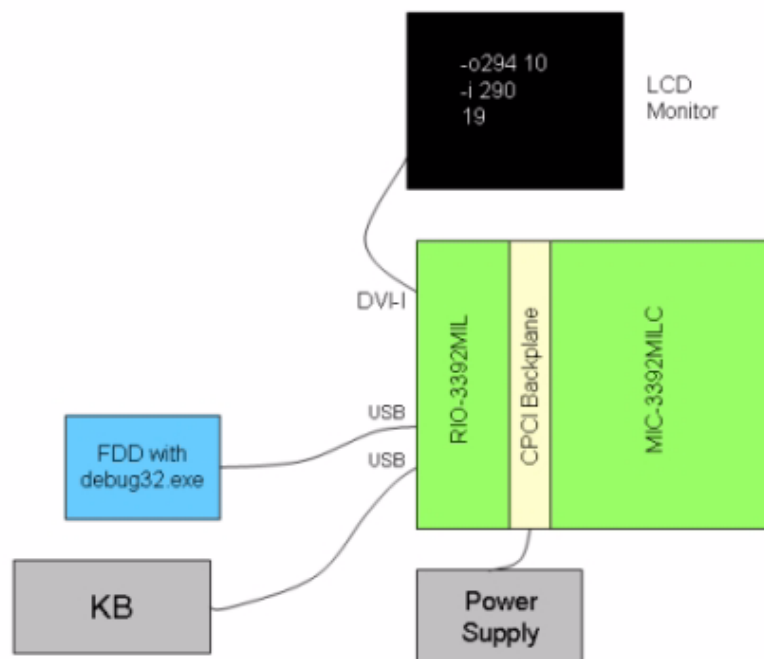

Figure 3.3 Set-up for read/write access to the internal registers
The user will need the following items to build the setup as shown in Figure 3.3 in order to gain access to the internal registers for the pre-heat function.
- Power up the equipment set-up as shown in Figure 3.3 and boot to DOS.